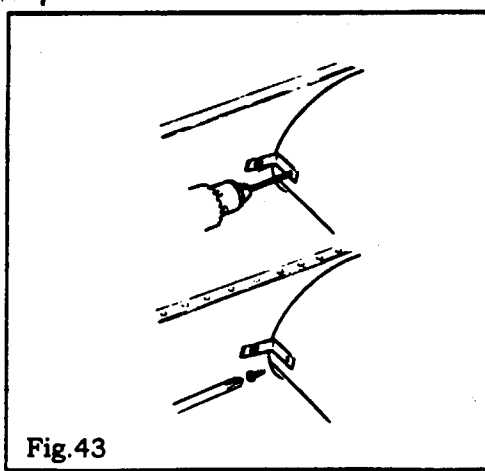

Fig. 43
9.2.1.6 Drill through the holes in the vent securing brackets into the outer tube and appliance outer collar for #6 screws. *Make sure that the drill does not penetrate the inner tubes.* Secure the vent unit to the brackets with two #6 thread cutting screws supplied (As fig. 43). Fit the required length of Simpson DuraVent pipe to the snorkel termination and rotate to lock in place.